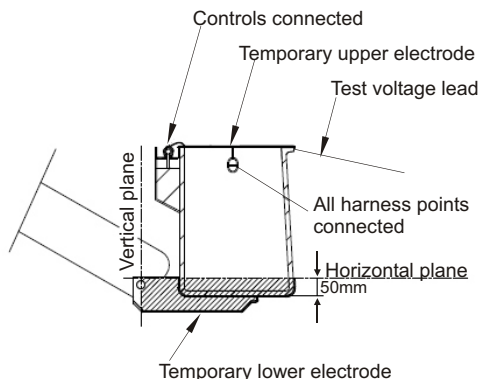

Figure 1
The rated load (200kg) is to be placed inside the basket 100mm from the inside face. The manual force is 400N with an additional multiplication factor of 1.1 giving 440N or 44.8kg. The line of action of this force is such that it produces the greatest overturning moment. That is the line of action of the force is perpendicular to a line joining the top rail of the platform to the tipping line (see Figures 1 and 2).
❑ Figure 1 Front Stability Test
The test shall be set up as illustrated in figure 1 below
- Install a temporary lower (foil) electrode in contact with the external surface of the base of the basket. Shape the electrode into all contours of the external surface of the basket bottom and covers using the simulated conductor as described in A51418.10 The electrode shall cover the surface lying below a horizontal plane located 50 mm above the level of the internal floor and extend to a vertical plane intersecting the boom pivot pin as shown in figure 1.